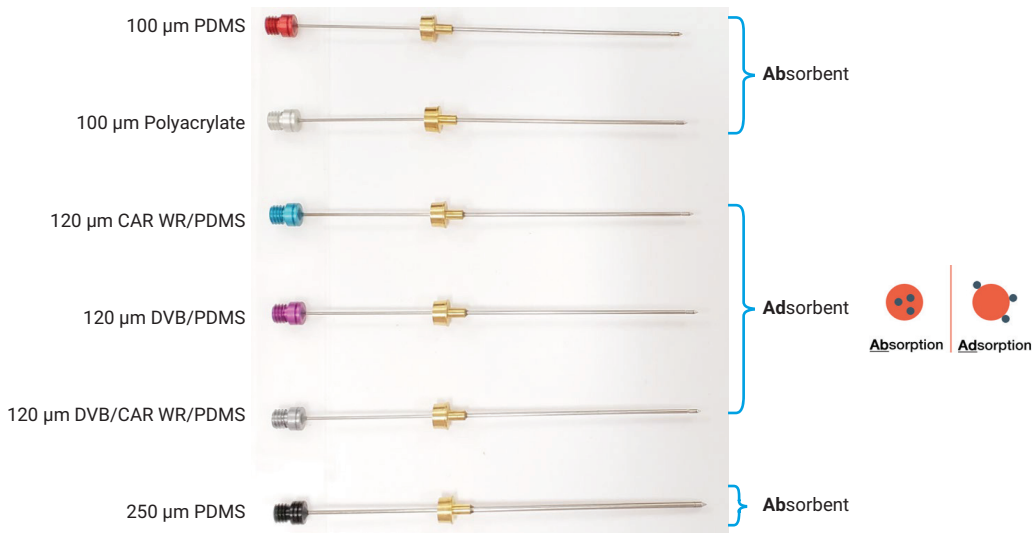

Figure 5. Agilent SPME Arrow phases and their associated material properties.
- Analyte concentration (Figure 5)